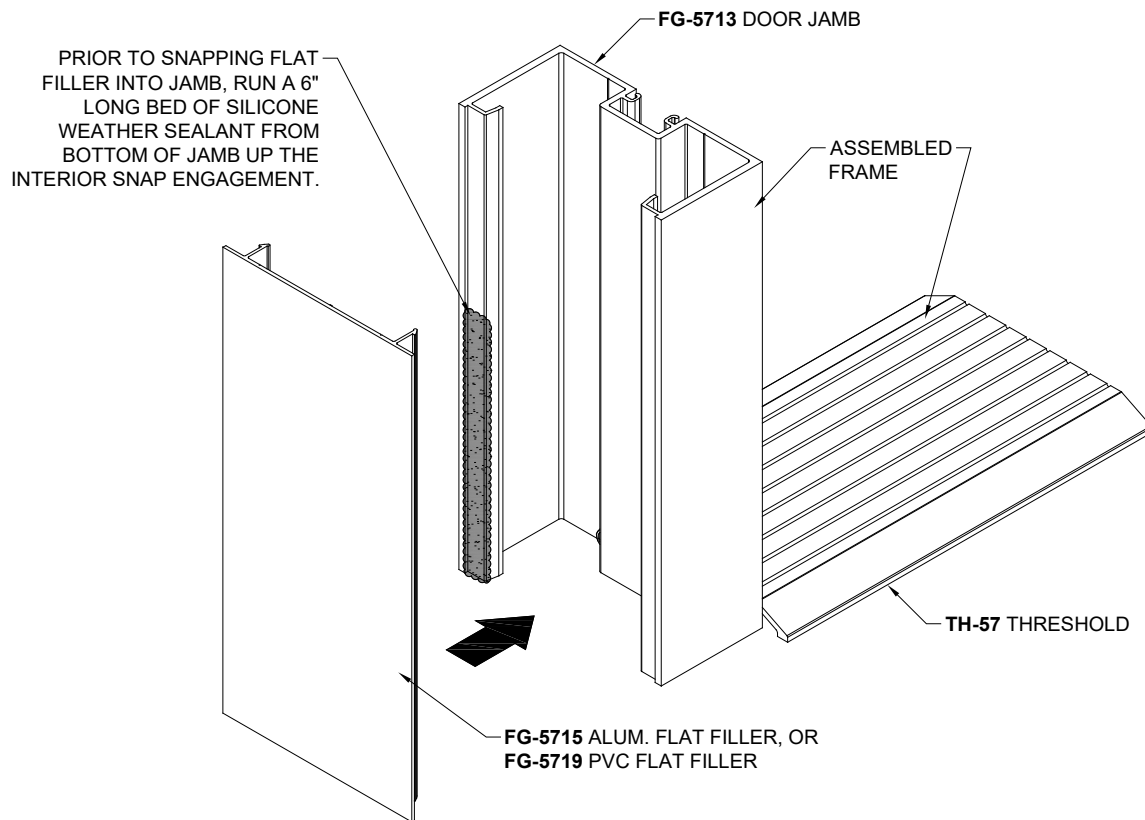

Figure 21: Flat Filler Installation
- 7.3 Run line of silicone weather sealant 6" up interior snap engagement of Jambs starting from bottom. Reference Figure 21 for seal.